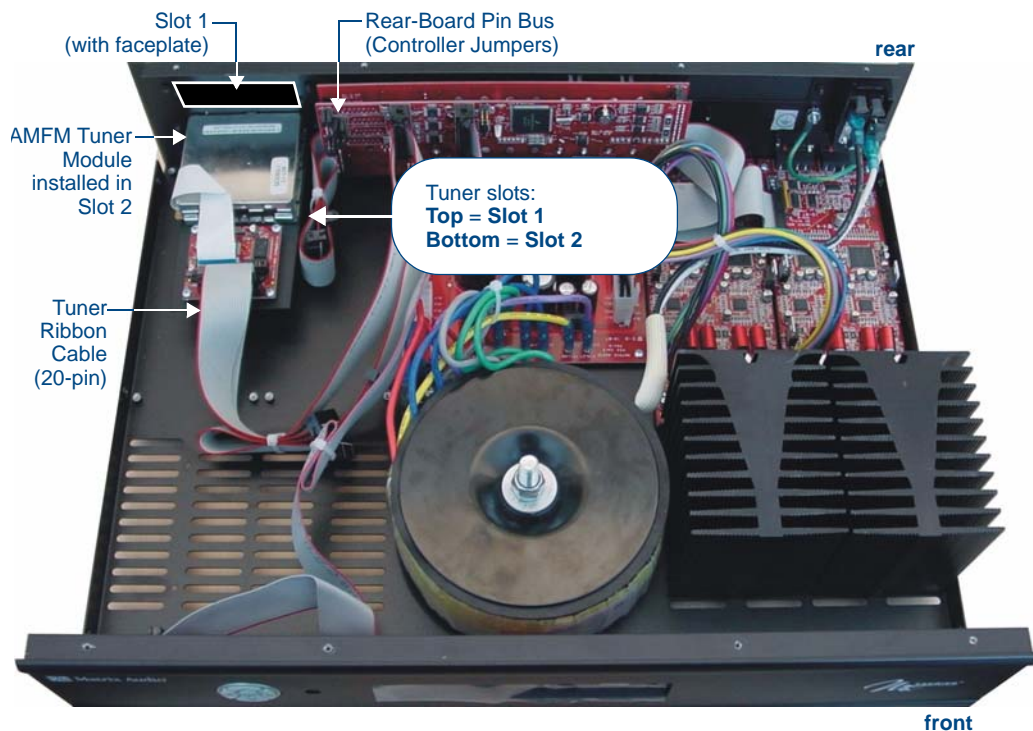

FIG. 57 Audio Controller - Internal view
FIG. 57 provides orientation for the various internal components that must be accessed to install the Tuner and set the Jumpers.
Mi-Series and Tango Audio Controllers come equipped with one DAS-AMFM Tuner Module, installed into Slot 2 (see FIG. 57). Mi-Series and Tango Audio Controllers support 2 Tuner Modules in any combination, this document describes installing the DAS-AMFM Tuner Module into Slot 1, leaving the factory-installed DAS-AMFM Tuner Module in Slot 2.
The DAS-SIRIUS Tuner is typically installed into **Slot 1** (see FIG. 57):
- The *Rear Panel* connector at the end of the Tuner Ribbon Cable is connected to the Controller’s rear board pin-bus (see FIG. 57).